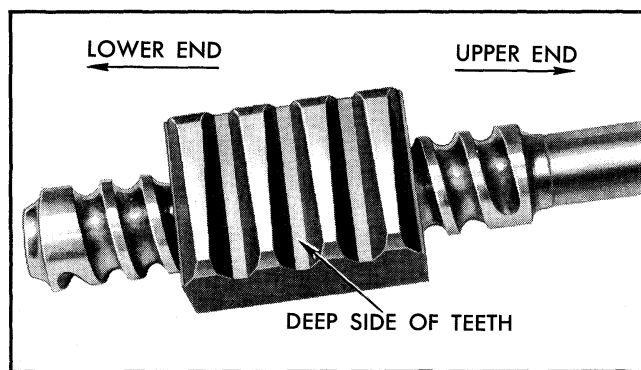

Fig. 9-25 Ball Nut Properly Installed on Shaft
1. Position ball nut on shaft so that deep side of teeth are located as shown in Fig. 9-25.